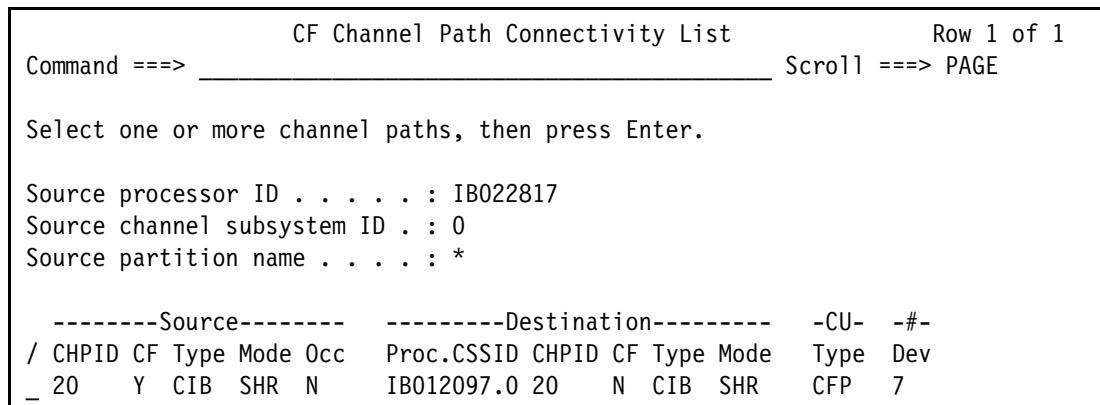

Figure 6-16 CF Channel Path Connectivity List with connected CIB CHPIDs
4. Press Enter to complete the operation, and the CF Channel Path Connectivity List is redisplayed (see Figure 6-16). The CF Channel Path Connectivity List panel now displays our new CHPIDs in connected status.